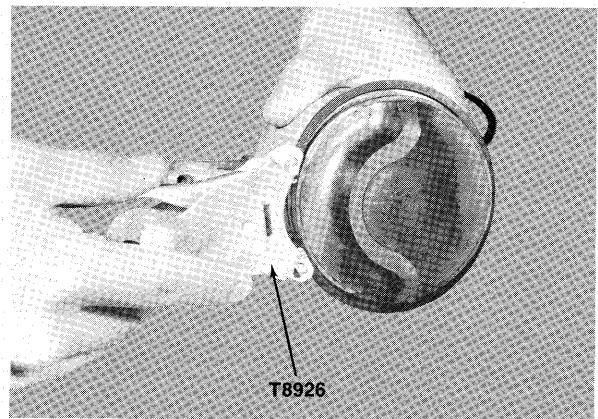

Figure 13—Removing Piston Rings
- D. Remove piston rings from piston using piston ring expander (Special Tool T8926) as shown in figure 13.